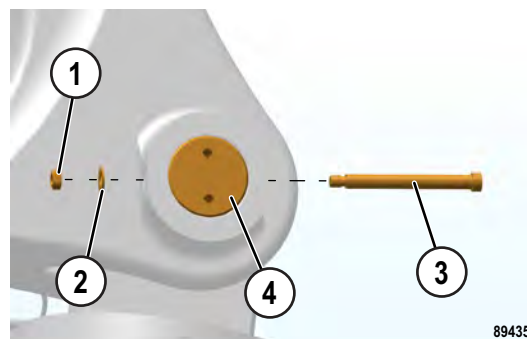

FIGURE 50-47. SHOULDER BOLT INSTALLATION
12. Insert shoulder bolt (3, Figure 50-47) through pin (4). Install flat washer (2) and locknut (1). Tighten the locknut to **68 N·m (50 ft lb)**.